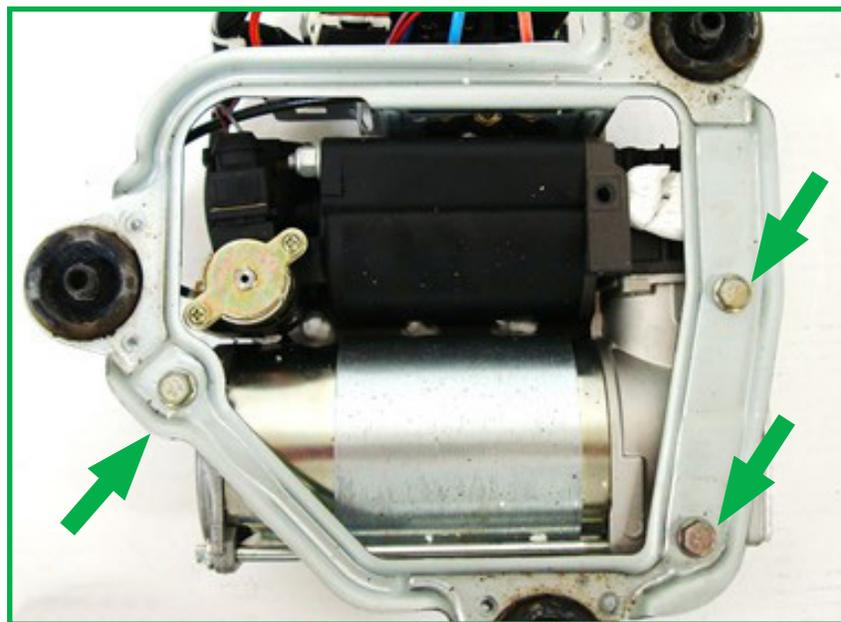

FIGURE 8
6. Remove the three (3) bolts from the backside of the mounting bracket. (Figure 8)